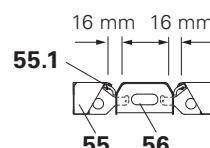

Fig. B6.05
- 2 x Outside Pieces AT 3 (55) for approx. 2.5 cm concrete cover or
- 1 x Middle Piece MT (56).
- (Fig. B6.05)